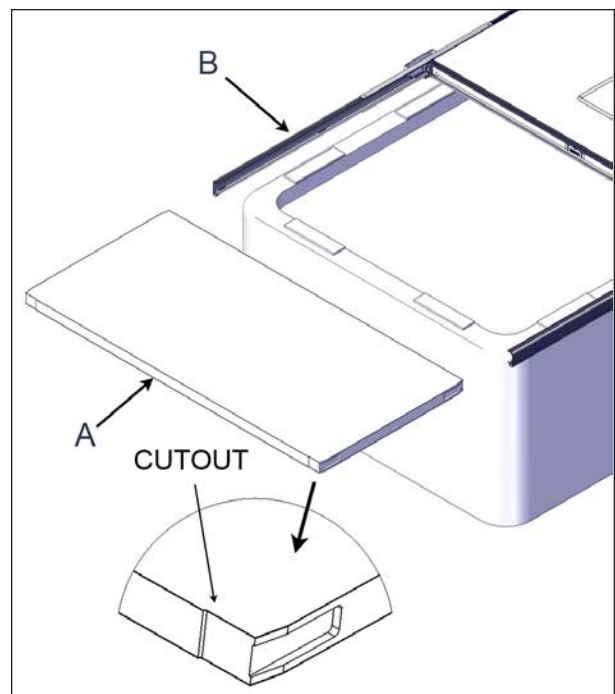

FIGURE 50: EXTRA PANEL INSTALLATION FOR 16' TO 20' LONG SPA MODELS
14. Slide in one of the remaining extra panels into the C-channels see Figure 50.
Make sure the panel side with the cut out shown in Figure 50 is pointing outward.